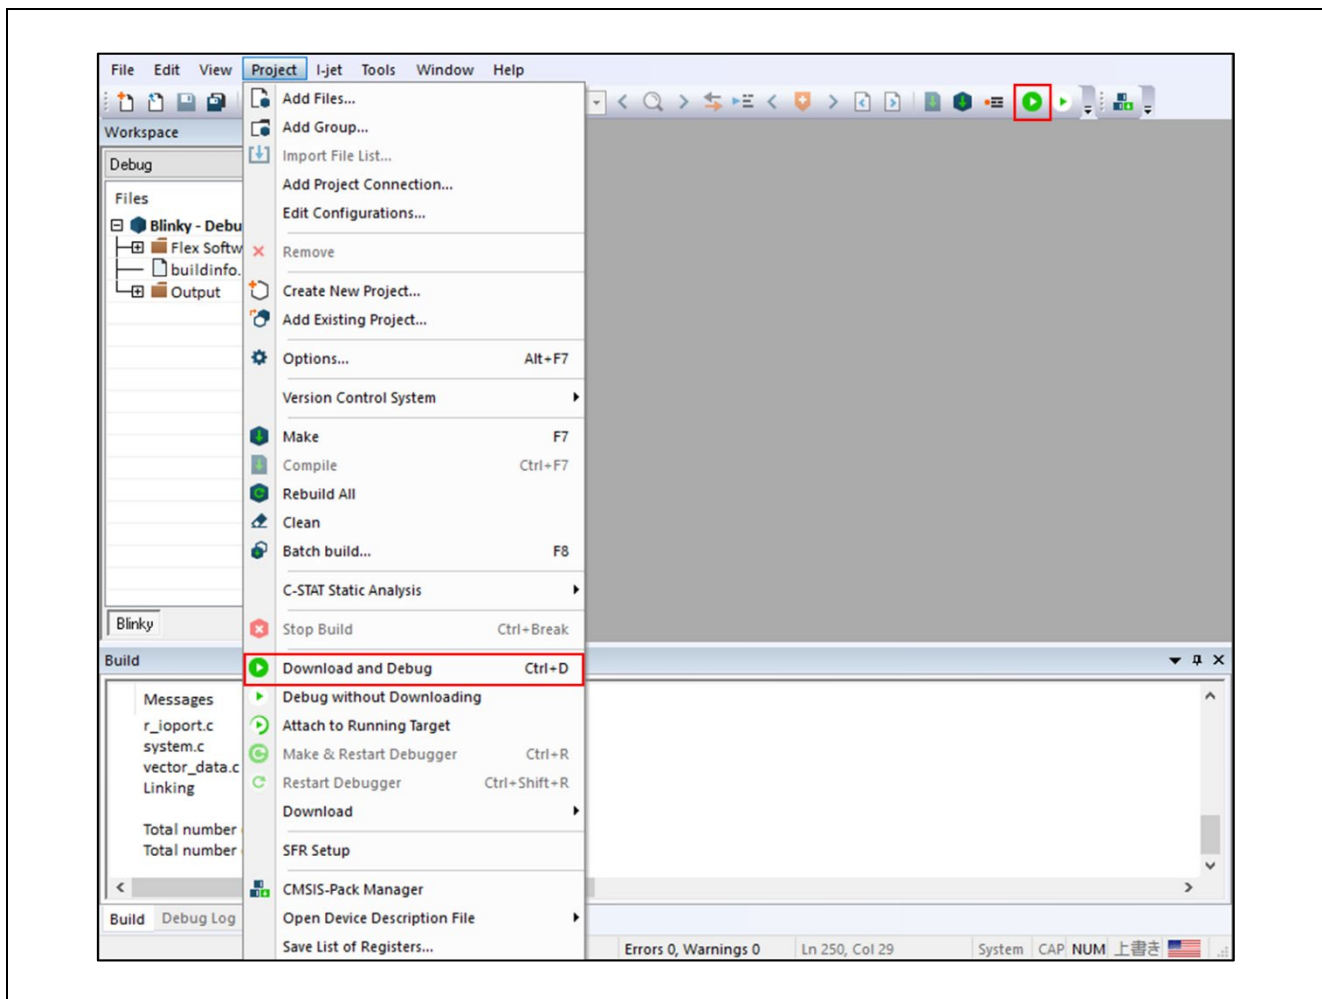

Figure 76 : Download and Debug Button
3. Download of the primary project with procedure 5.3.4 Download & Debug the Project as shown in Figure 76.